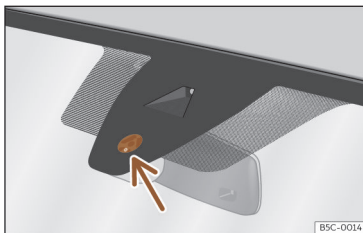

Fig. 98 Sensitive surface of the rain sensor.
The possible causes of anomalies and erroneous interpretations *in the sensitive surface area* >>> **Fig. 98** of the rain sensor are, among others:
- **Dirt:** dry dust, wax, coating on glass (Lotus effect) or traces of detergent (car wash) may reduce the effectiveness of the rain sensor or make it react more slowly, later or not at all. Regularly clean the sensitive surface of the rain sensor >>> **Fig. 98** (arrow) and check for possible damage to the wiper blades.